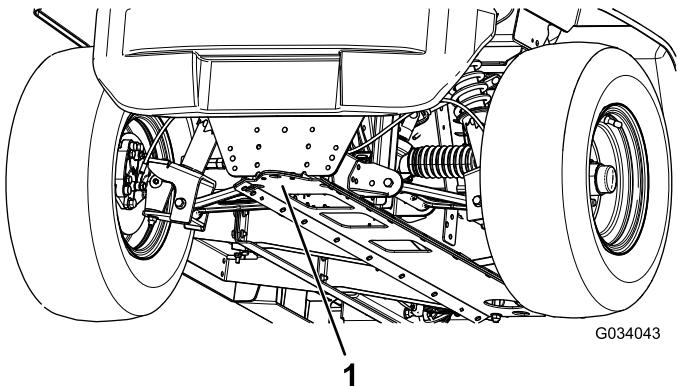

Figure 24
- The lifting point at the front of the machine is located at the front of the frame, behind the towing tongue (Figure 24).